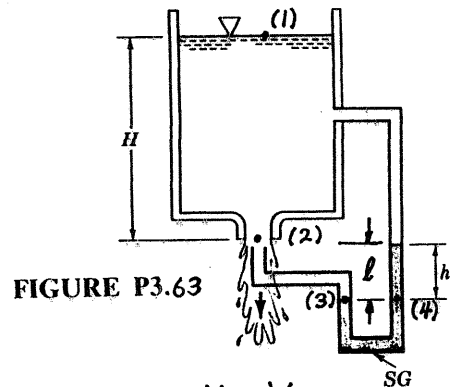

FIGURE P3.63
3.63 Water flows from the tank shown in Fig. P3.63. If viscous effects are negligible determine the value of h in terms of H and the specific gravity, SG , of the manometer fluid.